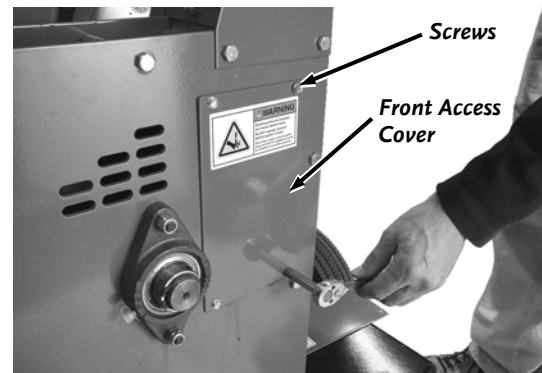

Figure 31
1. Remove the four Screws that secure the Front Access Cover with a 5/16" wrench and remove the Access Cover (**Figure 31**).